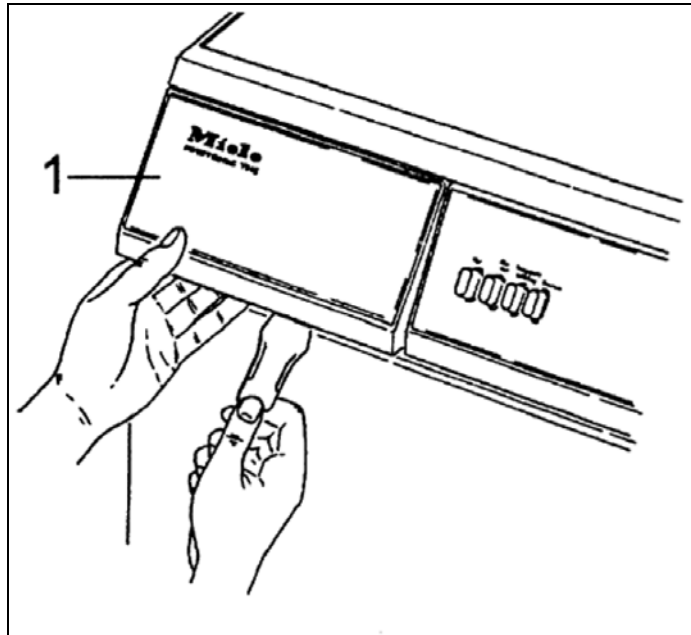

Figure 5-2: Removing the Left Section of the Fascia Panel
1. Remove the left section of the fascia panel using a lid opener (Figure 5-2, Item 1).